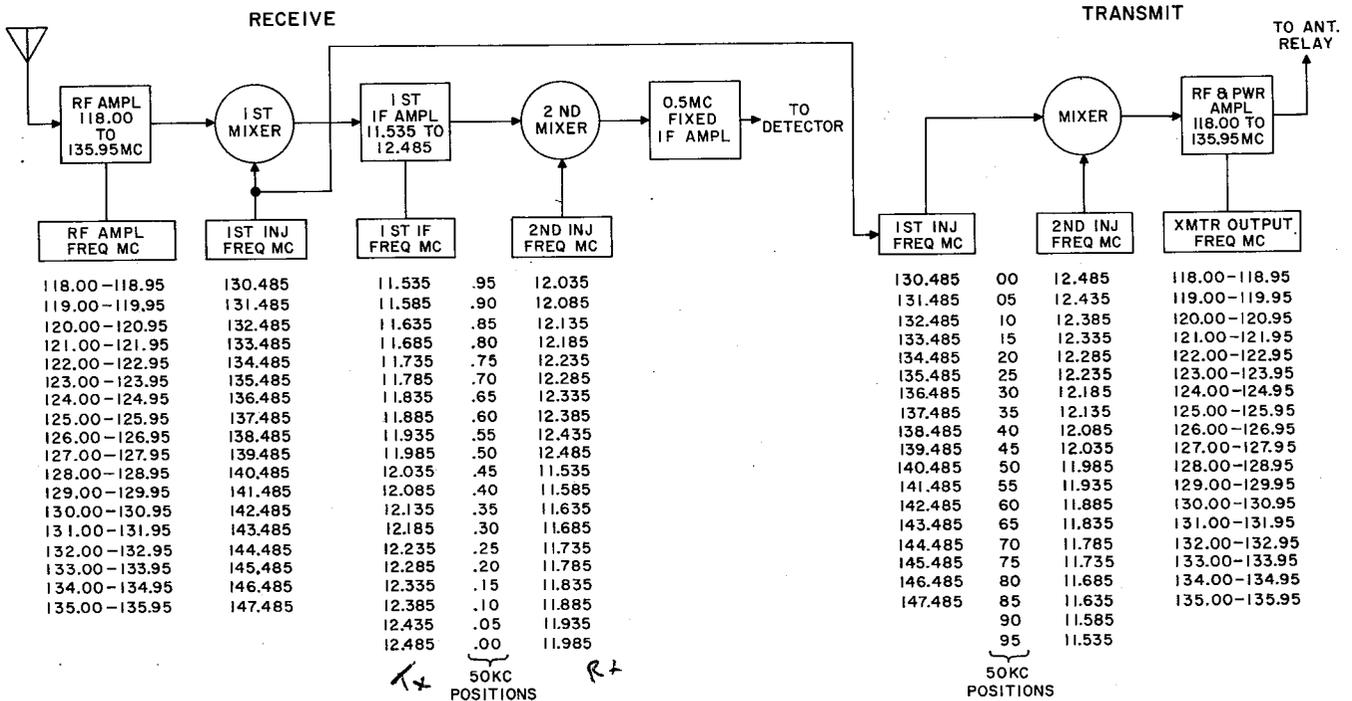

Figure 4-2. VHF Communication Transceiver 618F-1A/1C and Fixed I-F, Audio, and Power Supply 427D-1, Over-all Frequency Scheme
4.2.1.3 TRANSMITTER MIXER. Refer to frequency scheme, figure 4-2. The transmitter mixer, V6, uses a pentode tube, type 5654. The vhf and h-f oscillator output signals are applied to the cathode and control grid respectively. These two injection signals are beat together in the transmitter mixer and produce sum and difference frequencies. The mixer output tank circuit is capacitively tuned to the difference frequency by C42A which is ganged to the megacycle and kilocycle control knobs. Tracking accuracy is maintained by trimmer capacitor C43 and inductor L33 at the high and low ends of the frequency range respectively. The mixer plate circuit will pass 118.00 to 135.95 mc (117.00 to 134.95 mc for 618F-1B and 618F-1D) by varying C42A with the megacycle or kilocycle control knobs. This frequency range includes all possible difference frequencies produced by combining any vhf oscillator output frequency with any h-f oscillator output frequency. The mixer output covers the entire frequency range of the transceiver and requires no further